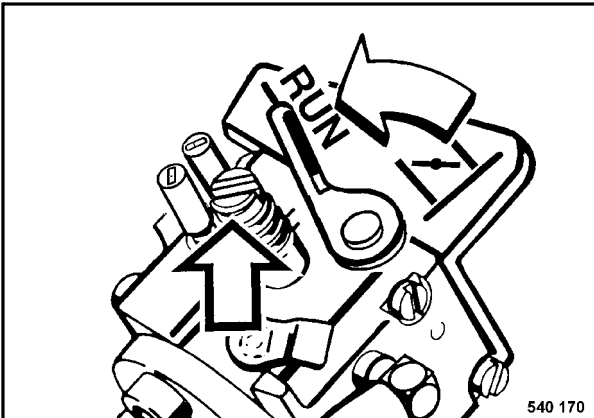

Fig. 4
- Adjust the idle speed to 1700 + 100 rpm by turning the idle speed adjustment screw (Fig. 4).